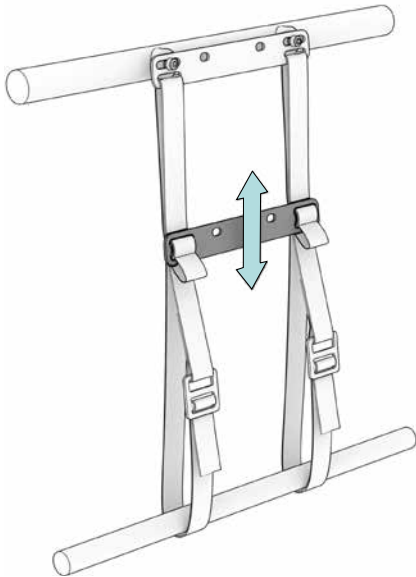

Fig. 12
The height of the connector plate (8) can be set to one of three levels according to preference. Loosen the belt straps, set the plate height and pull the belt straps tight again (Fig. 12).